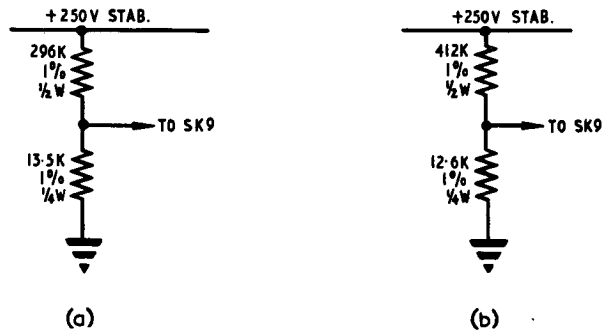

Fig. 6. Octagonal blanking test potentials
- (3) Improvise the resistor chain shown in fig. 6(a), connect to SK9 as indicated, and check that the output at SK11 can be set to $-11.5V$ by RV3.
- (4) Improvise the resistor chain shown in fig. 6(b), connect to SK9 as indicated, and check that SK11 can again be set to $-11.6V$ by RV3.
The values shown in fig. 6 should be adhered to, as source impedance is important as well as voltage input.